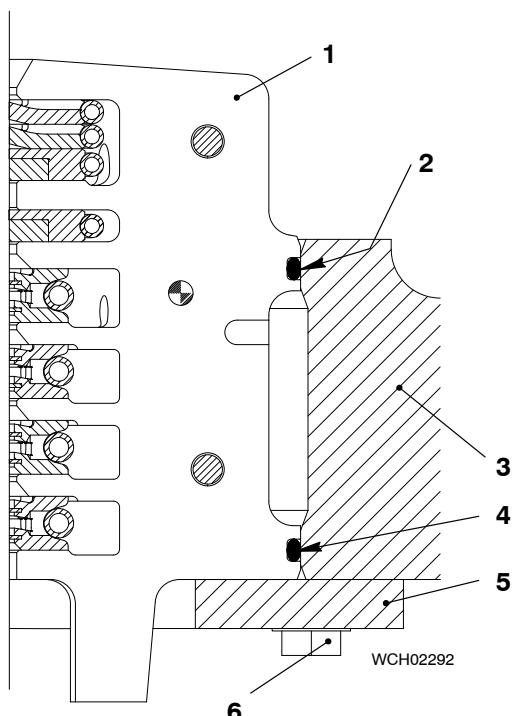

Fig. 8
- 1) Apply lubricating oil to the opening in the cylinder jacket (3, Fig. 8) and to the area of the O-rings (4) on the housing (1).
- 3) Make sure that the support (5) is installed onto the cylinder jacket (3). If necessary, torque the outer bolts (6) to 150 Nm.